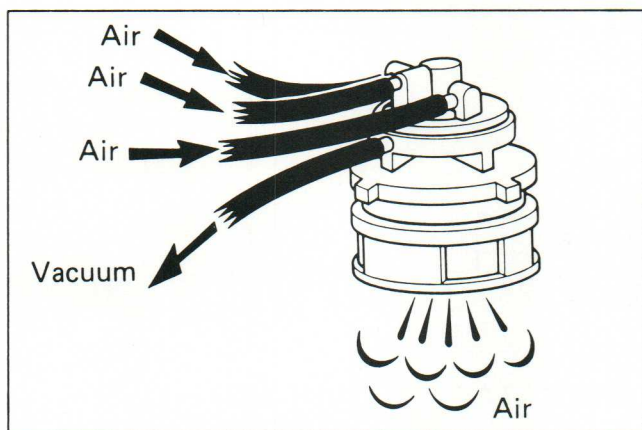

Figure 249-4
2. At high altitude — above 3,930 feet (1,198 meters) — blow air into any one of the three ports on top of the HAC valve with the engine idling. The HAC valve should be open (Figure 249-4).